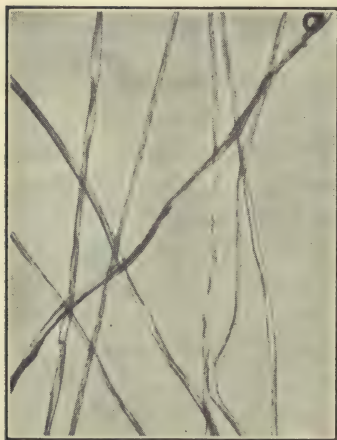

FIG. 54. — Cotton fibers. (Courtesy of Philadelphia Commercial Museum.)
**Cotton and linen materials.** — Cotton fibers are flattened, twisted hairs or filaments from one to several inches in length (Fig. 54). The twist of the cotton fiber serves the weaver the same purpose as the scaly surface of the wool fiber; it assists the interlocking of fibers and gives strength to fine yarns; it also gives spring or elasticity to the fibers. Cotton fibers are harder than woolen fibers and are woven more closely; there are fewer and smaller air spaces in cotton materials than in woolen materials, and hence cotton garments permit more heat